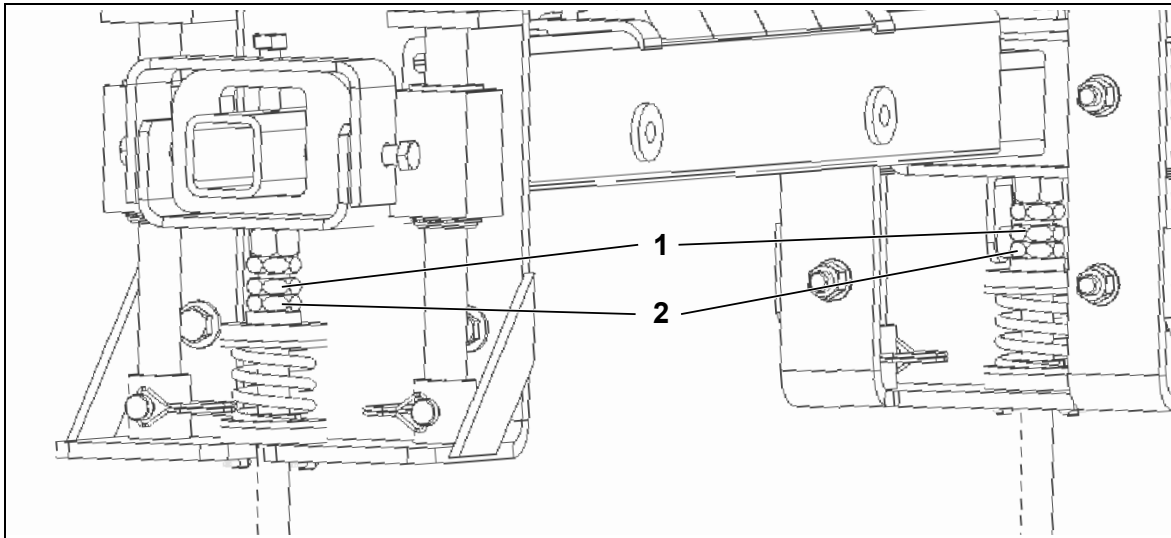

Fig. 20
In the case of the spring tensioner, one side can be corrected upwards if the clearances are not identical. Loosen the locknuts (1, Fig. 20 left) for this. The adjusting nut (2, Fig. 20 right) can be used to correct the position upwards.
1. Loosen the locknut (1, Fig. 20) on both sides.
2. Align the adjusting nuts (2, Fig. 20) evenly in a clockwise direction on both sides until the cleaning blades slightly touch the conveyor belt; then commence tensioning according to Step 3 and the values from Table 6 or 7.